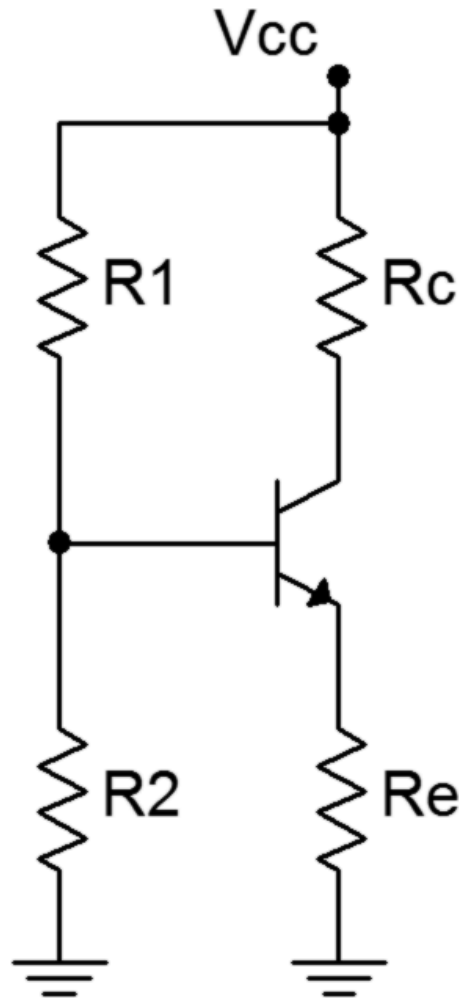

Figure 1
1. Consider the circuit of Figure 1 using  $V_{CC} = 10$  volts,  $R_1 = 10\text{ k}\Omega$ ,  $R_2 = 3.3\text{ k}\Omega$ ,  $R_E = 4.7\text{ k}\Omega$  and  $R_C = 5.6\text{ k}\Omega$ . Using the approximation of a lightly loaded “stiff” voltage divider, determine the ideal end points of the DC load line and the Q point, and record these in Table 1.
3. Build the circuit of Figure 1 using  $V_{CC} = 10$  volts,  $R_1 = 10\text{ k}\Omega$ ,  $R_2 = 3.3\text{ k}\Omega$ ,  $R_E = 4.7\text{ k}\Omega$  and  $R_C = 5.6\text{ k}\Omega$ . Measure the base, emitter and collector voltages and record them in the first row of Table 2 (Experimental). Compute the deviations between theoretical and experimental and record these in the first row of Table 2 (% Deviation).
9. Build the circuit of Figure 1 in a simulator. Run a DC simulation and record the resulting transistor voltages in Table 6.